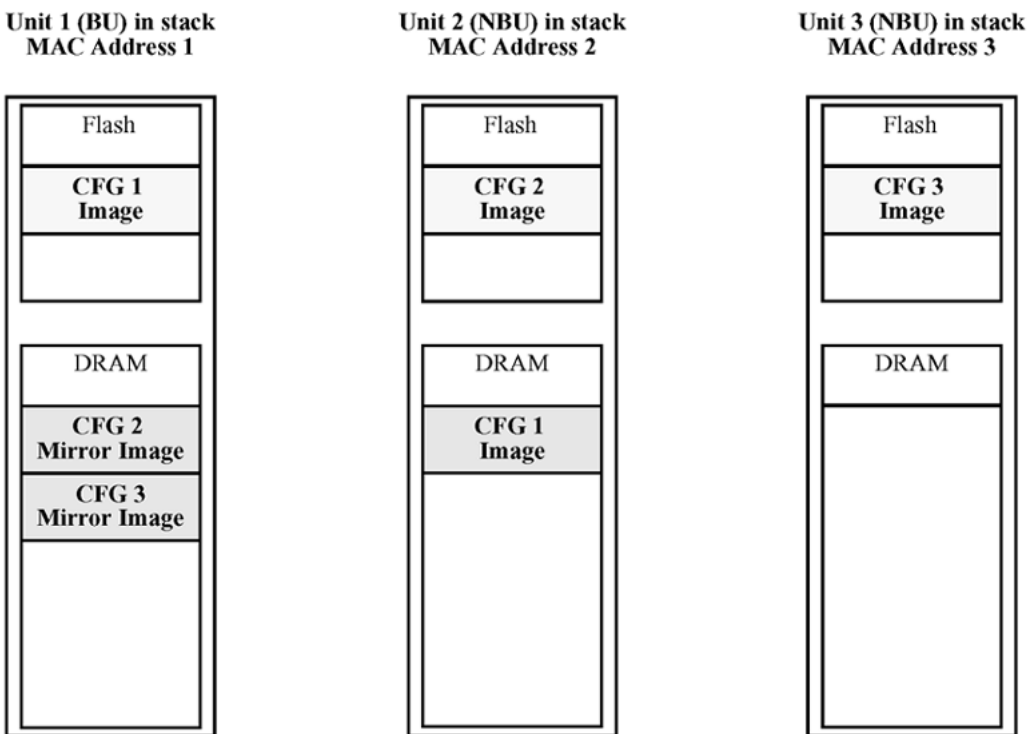

Figure 1: CFG mirror process in stack
After a power cycle, all the CFG images in a stack are mirrored. Figure 1: CFG mirror process in stack on page 23 illustrates the CFG mirror images in a three-unit stack after the stack is powered on. Unit 1 is the Base Unit (BU) and all other units are Non-Base Units (NBU).
- Unit 1 (BU) contains mirror images for unit 2 (CFG 2) and unit 3 (CFG 3).